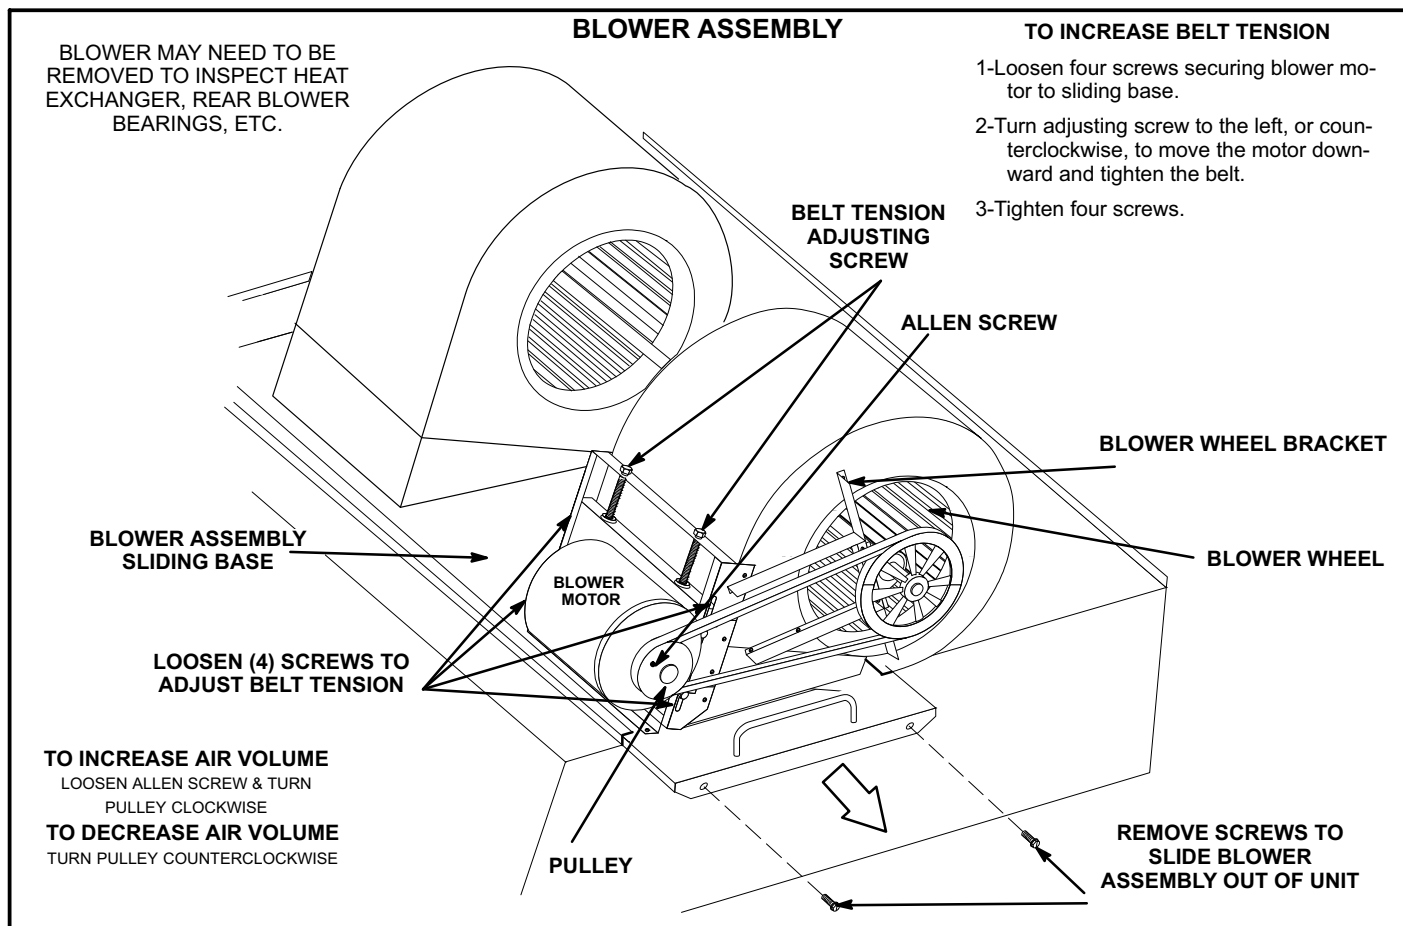

FIGURE 10
The blower compartment is located between the evaporator coil and the compressor / control section on the opposite side of the condenser coil. The blower assembly is accessed by disconnecting the blower motor wiring (and all other plugs) and removing the screws on either side of the sliding base. The base pulls out as shown in figure 10.
- 5- The RPM can be adjusted at the motor pulley. Loosen Allen screw and turn adjustable pulley clockwise to increase RPM. Turn counterclockwise to decrease RPM. See figure 10.
- 1 Loosen four screws securing blower motor to sliding base. See figure 10.